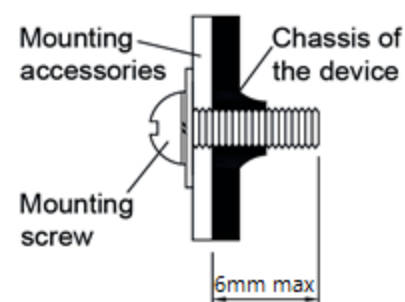

Fig. 4 Mounting Screw
- **For PMT Series (Refer to Fig. 4):** Only use M3 screw ≤ 6 mm (0.23 inch) through the base mounting holes. This is to keep a safe distance between the screw and internal components. Recommended mounting tightening torque: 4~7 Kgf.cm (3.47~6.08 lbf.in).